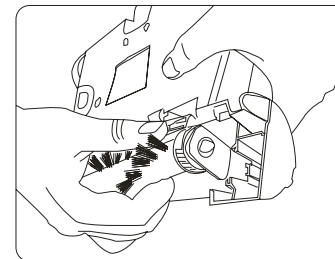

Fig. 13
5. Lift the brush bar end cap up from the slot. (Fig. 13)
9. Insert the brush bar into the slot. (Fig. 13)